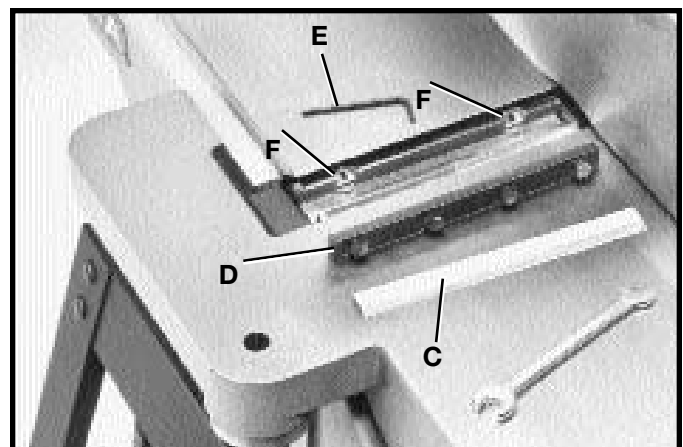

Fig. 58
5. Fig. 58, illustrates the knife (C) and knife locking bar (D) removed from the cutterhead. Remove the remaining two knives and locking bars, in the same manner.
6. Using wrench (E) Fig. 58, lower the two knife adjustment blocks by turning screws (F) counterclockwise in all three slots of the cutterhead.
8. Replace the knife locking bars (D) Fig. 58, and knives (C) into each slot in the cutterhead.